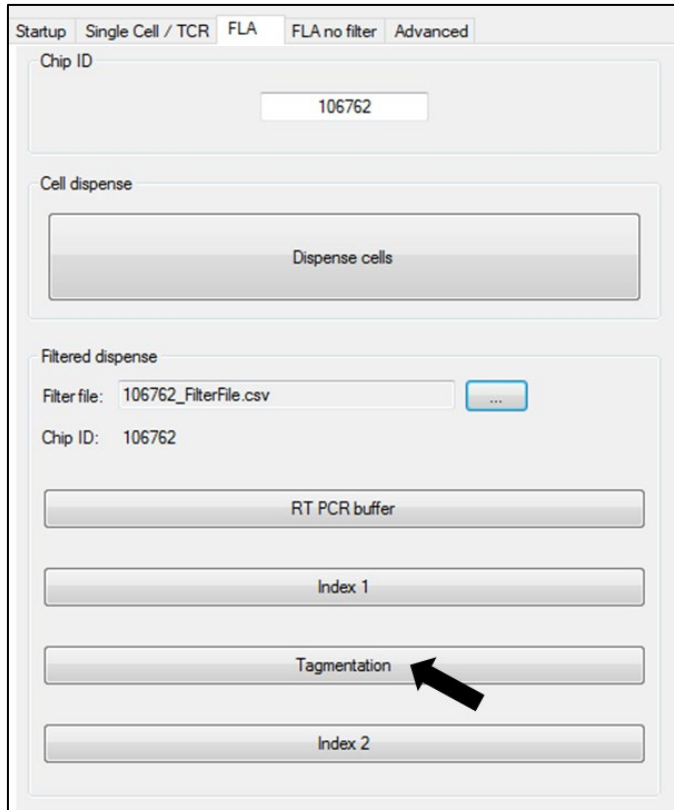

Figure 42. Load the *PredispensedFilter.csv* file into the ICELL8 MSND software and choose [Tagmentation].
- Under the *FLA* tab, click the browse button next to the Filter file field to load the <Chip Number>.CSV filter file (Figure 42, below).